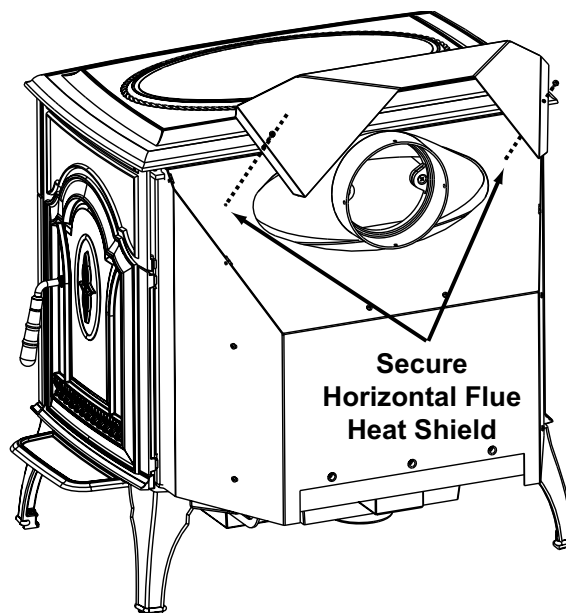

Figure 10B
6. Attach required accessory Horizontal Flue Shield with screws provided. **Figure 10B**